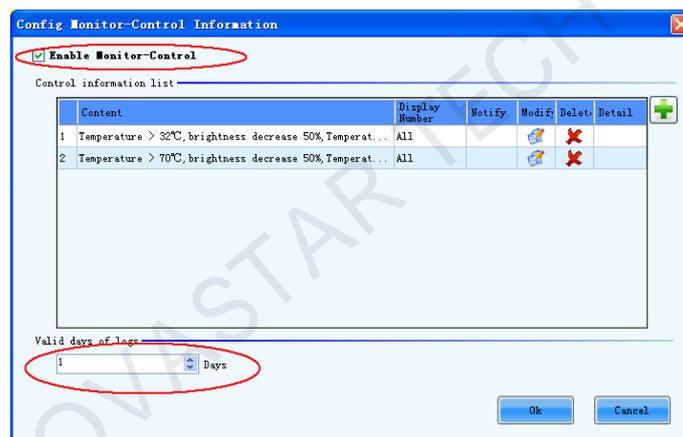
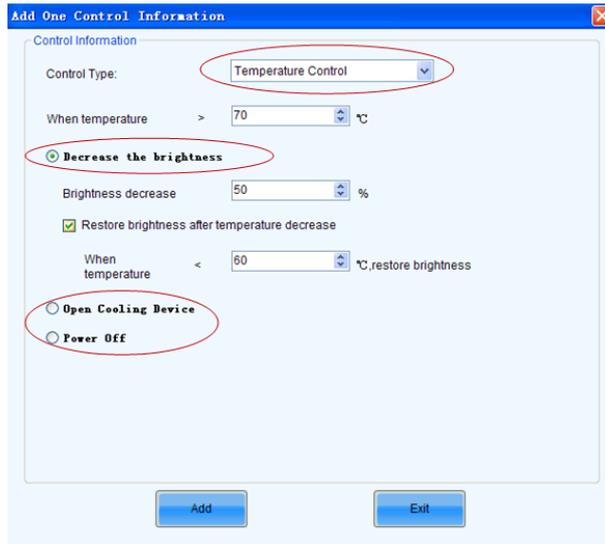
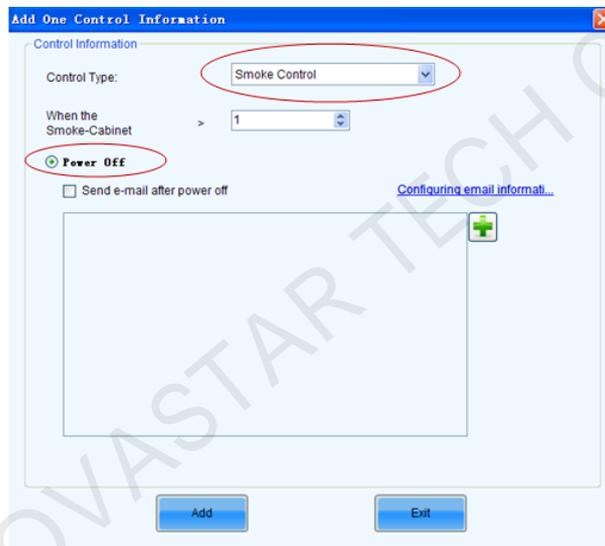

Fig. 7-42 Configuration Of Monitor-Control
Fig. 7-43 Temperature Control Information
Fig. 7-44 Smoke Control Information
One control information can be added by clicking the button  in Fig.7-42. As it show in Fig. 7-43 is to add one temperature control information, as it show in Fig. 7-44 is to add one smoke control information.
2) In Fig. 7-42 click on the cabinet in the sketch map to open the **Point Detect Result of Modules** page for details about LED status information. Shown in Fig. 7-50 is the **Point Detect Result of Modules** page showing the LED status of the red cabinet in Fig. 7-50: